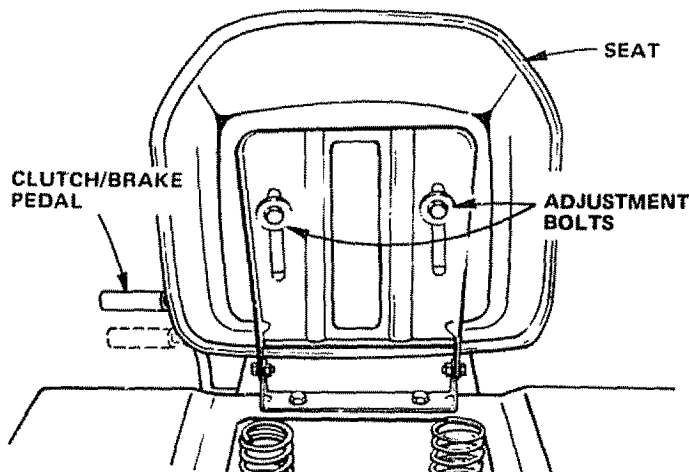

FIGURE 3
3. Place Seat on Seat Pan. Screw Adjustment Bolts, Lockwashers and Flat Washers into Seat (Fig. 3). Adjustment Bolts, Lockwashers and Flat Washers found in Bag of Parts. Tighten finger tight.
5. Raise Seat. Use 9/16" wrench to loosen Adjustment Bolts (Fig. 3). When adjusted for comfortable operation, tighten Adjustment Bolts securely.